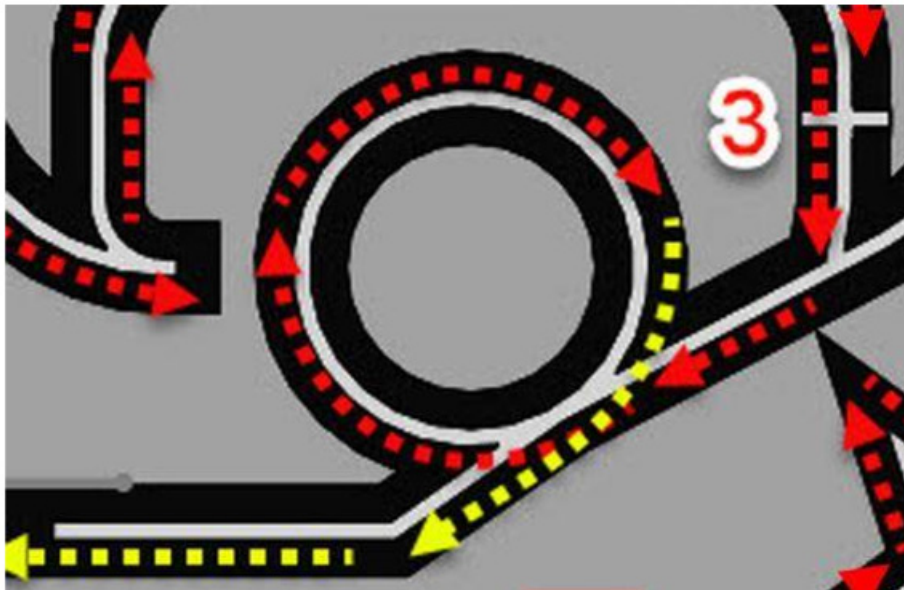

Figure 8: Circular road
15. If the robot passes in the opposite direction without making a complete lap on the large circular track, the robot is not intervened; the robot continues its movement, but the robot is penalised 100 seconds. (See Figure 8)